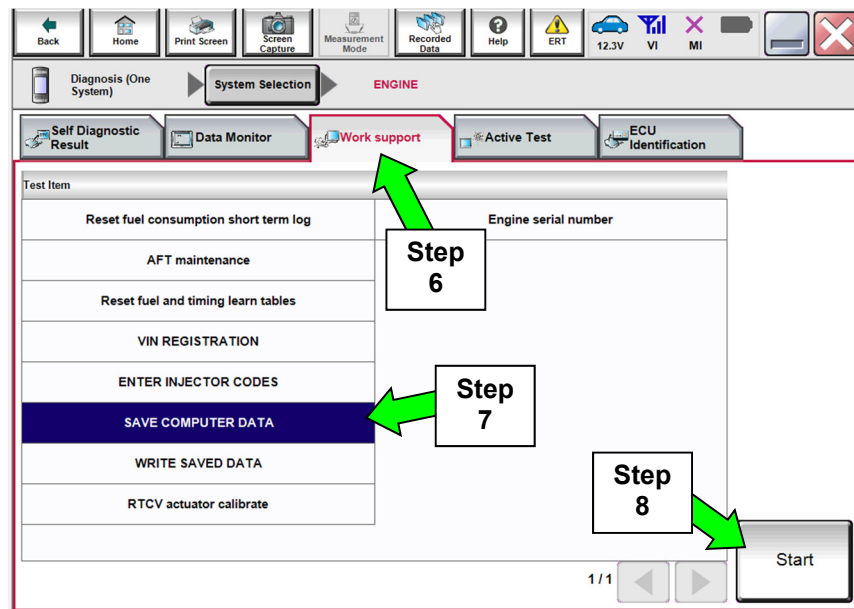

Figure 2
6. Navigate C-III plus to **ENGINE > Work Support** (see Figure 2).